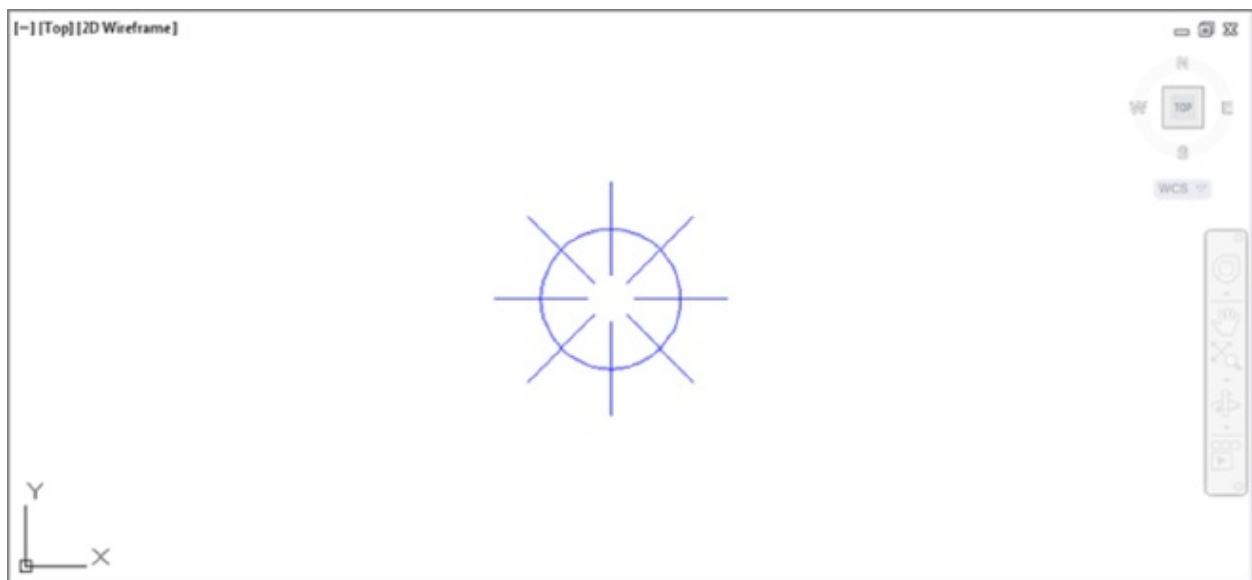

FIGURE 6.5 The preceding view reduced by a factor of 0.5
2. Enter **0.5x** \leftarrow . Your drawing will look like Figure 6.5.